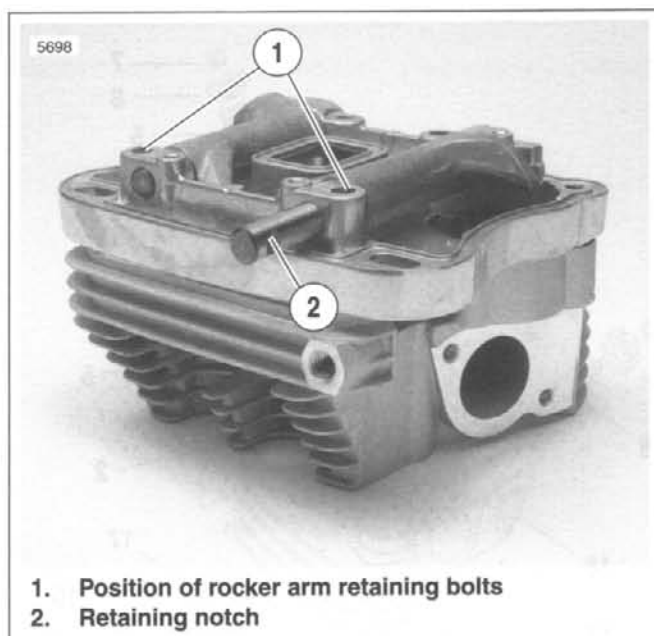

Figure 3-7. Removing Rocker Arm Shafts
8. See Figure 3-7. Remove rocker arm shafts by tapping them out using a hammer and a soft metal punch.